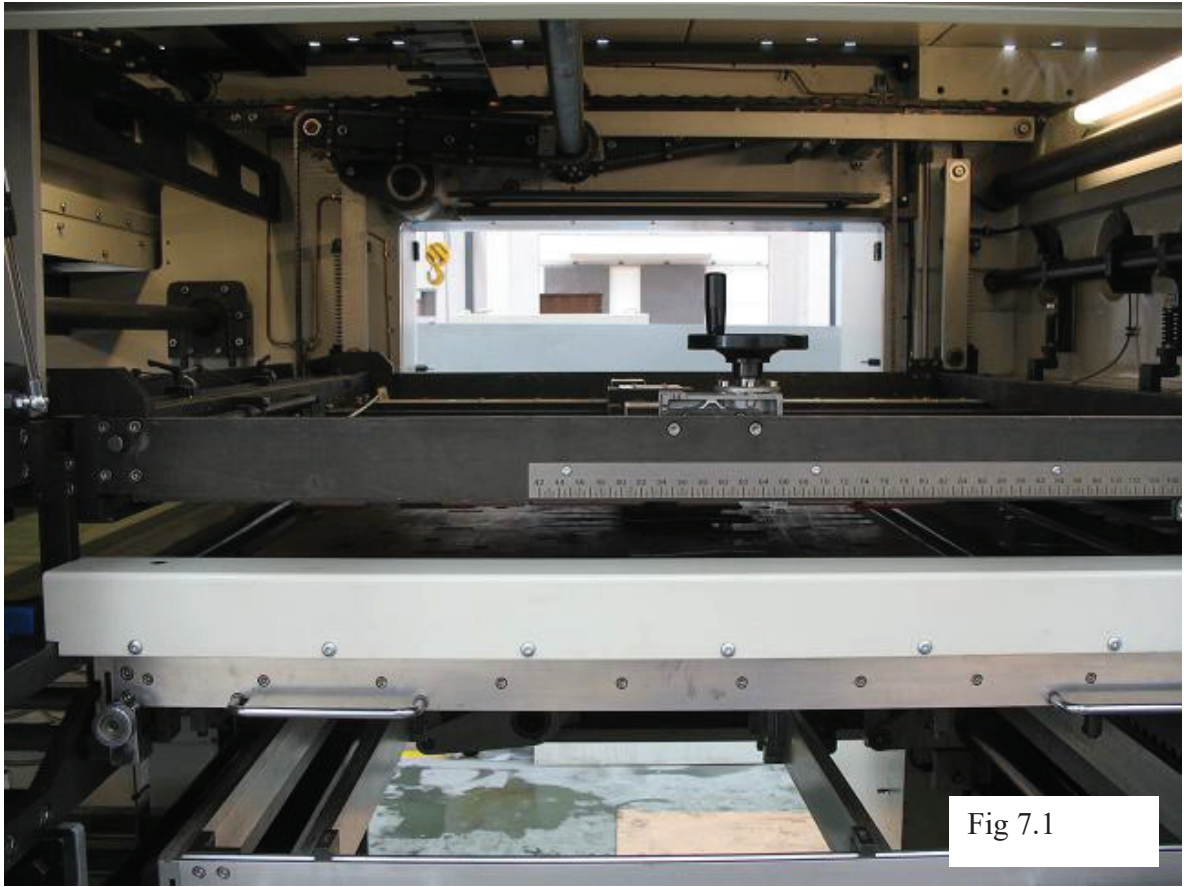
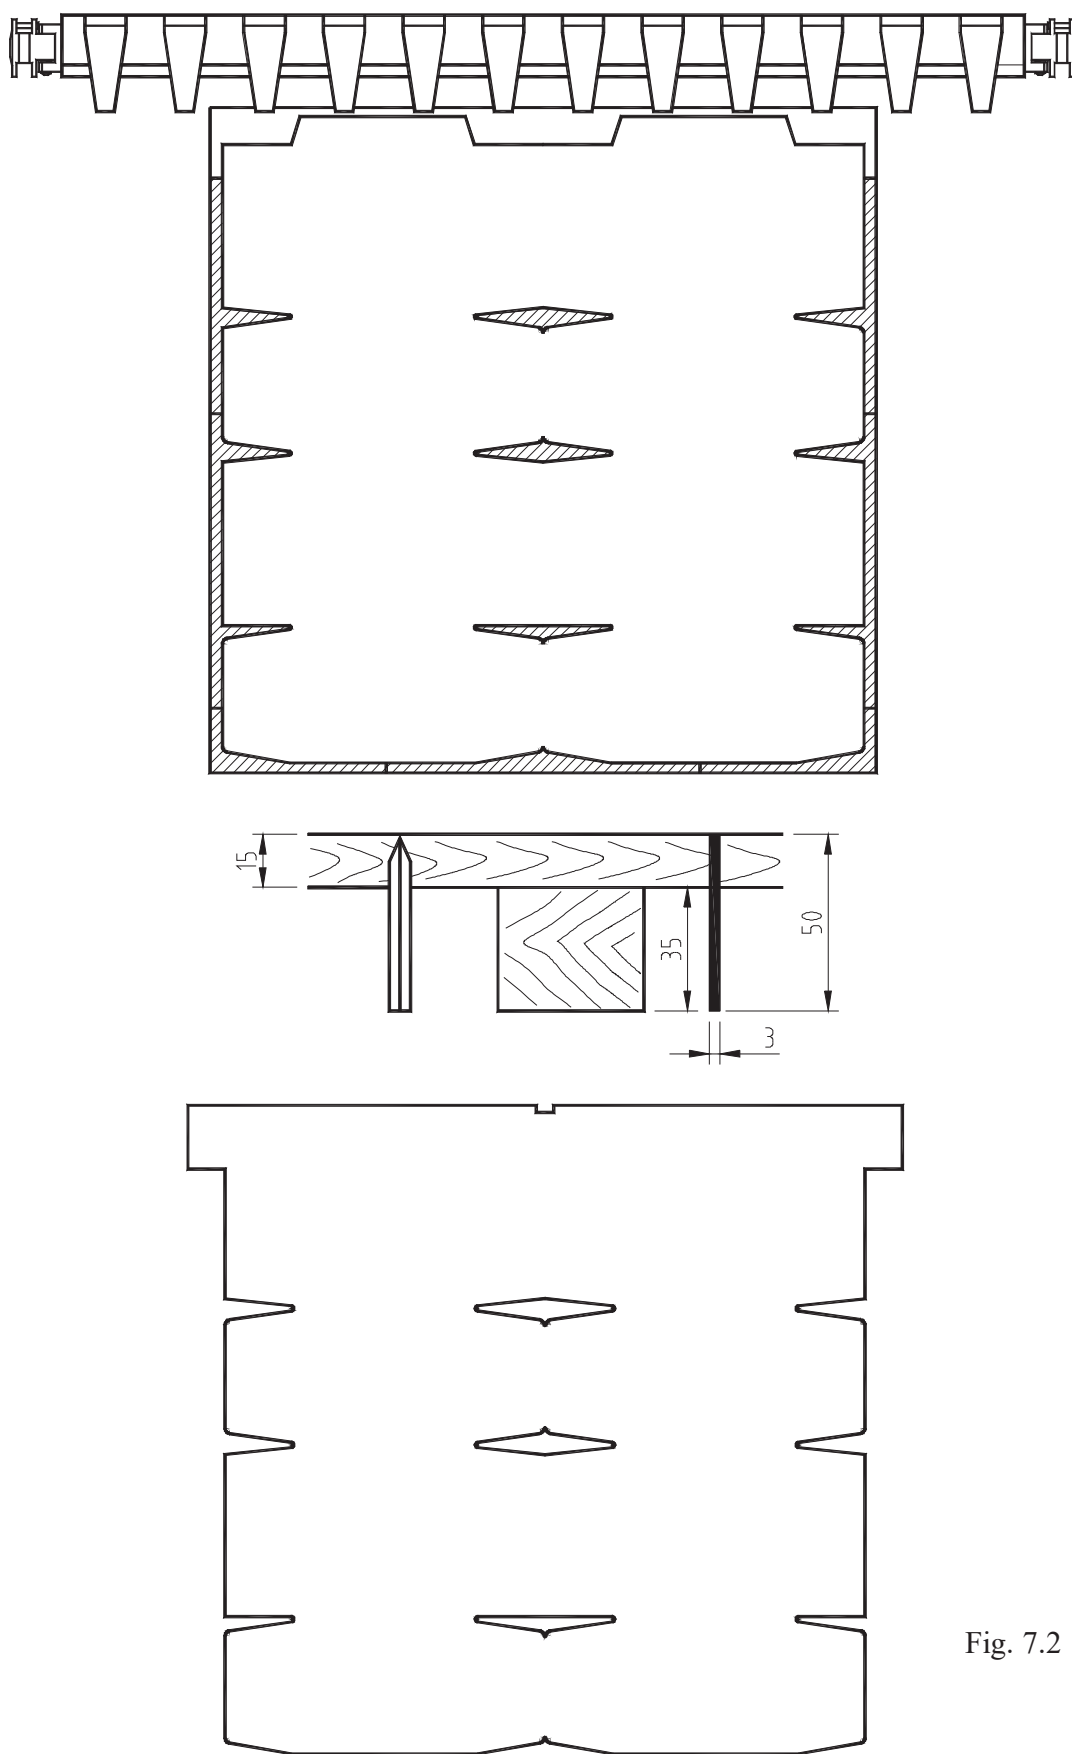
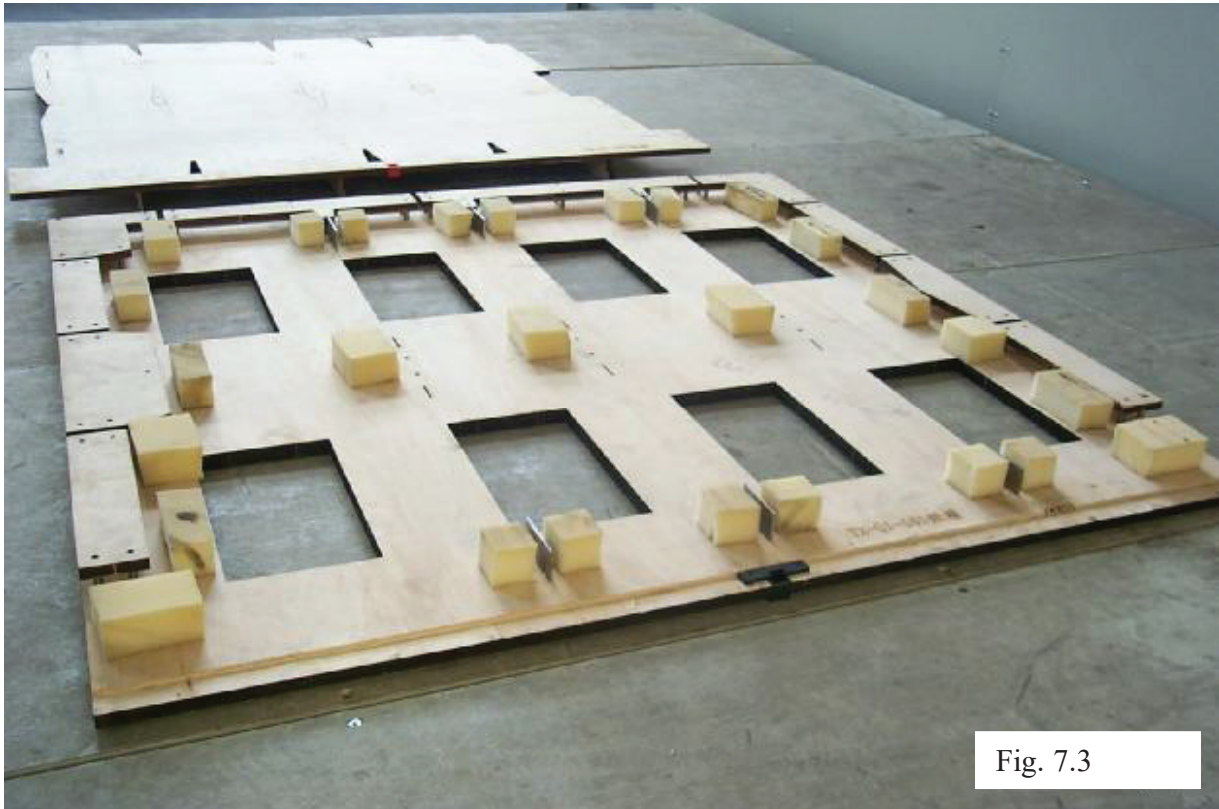

Fig 7.1
Fig. 7.2
Fig. 7.3
7.1 DESCRIPTION (fig. 7.1 & fig. 7.2)
The stripping station consists of a upper frame, on which a male tool is fitted, and a lower movable frame holding a female stripping board, to be cut according to the waste outlines. When the gripper bar stops, the sheet is pushed by the stripping board and the upper tool, the waste pieces are stripped off through the openings in the board (fig. 7.3).
As shown on fig. 7.1 & fig. 7.2, it is possible to strip side trims and rear trim and also the waste inside the sheet.
7.1.4 Stripping Dies (fig. 7.2 & fig. 7.3)